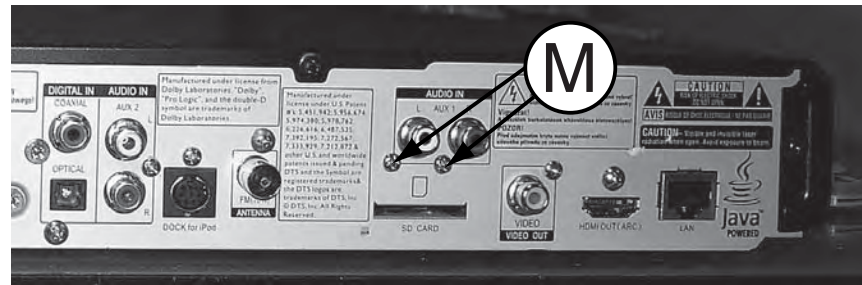

Figure 16
- 1) Loosen 2 screws “M” at the back panel to remove AUX Board as shown in figure 16.